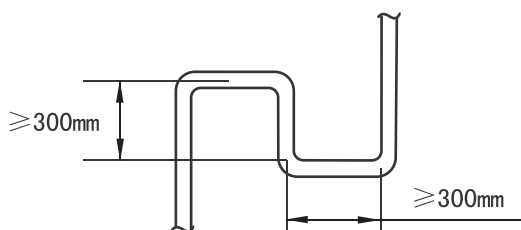

Fig.5-2
3. When the outdoor unit is on the top position and the difference of level is over 20m, it is recommended that set a oil return bend every 10m in the gas pipe of the main pipe, the specification of the oil return bend refers to Fig.5-2.
Pipe name	Code (As per the Fig. 5-2)
e.x.1: Refer to Fig.5-2, the capacity of downstream units to L2 is $71 \times 2 + 140 + 28 = 310$, i.e. low pressure gas pipe for L2 is Φ22.2, high pressure gas pipe is Φ19.1, high pressure liquid pipe is Φ12.7.
- Take Fig.5-2 as an example. Provided that the equivalent length of all pipes in this system is larger than 90m.